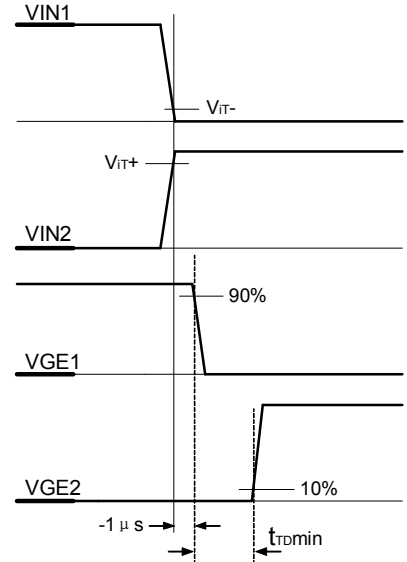

Fig 3 Interlock function
■ An “INTERLOCK” circuit prevents the two IGBTs of the half bridge to switch-on at the same time, and a “dead time” (default:10us) can be adjusted by adjusting resistor value of pins J3 & K3, and J4 & K4, to suit for IGBTs with different current level and different operating frequency. Tab 1 shows the corresponding relationship between R_{TD} and dead time. The interlocking may also be inhibit by solder bridging between pins J5 and K5 to obtain two independent drivers(see Fig.3).